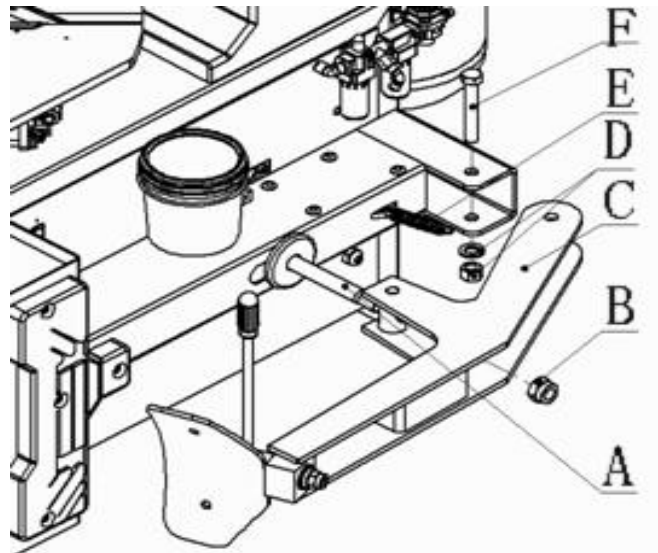

Fig 4-11
4.2.16 Unscrew the lock nut (Fig4-11 B) from the top end of bead breaker cylinder piston rod and unscrew the bolt joint (4-11 F) (4-11 D) on the body. As per the indication in Fig4-11, Insert the blade (4-11 C) into the piston rod (4-11 A), Hang one end of the bead breaker arm spring (4-11 E) on the body and then insert the bolt (4-11 F) into the body and blade hole and use the nut and flat washer (4-11 D) and bolt (4-11 F) to connect and fix. Tighten the lock nut (4-11 B) and bead breaker cylinder piston rod. Hang the other end of the bead breaker arm spring (4-11 E) on the bead breaker arm pin shaft (4-12 A)